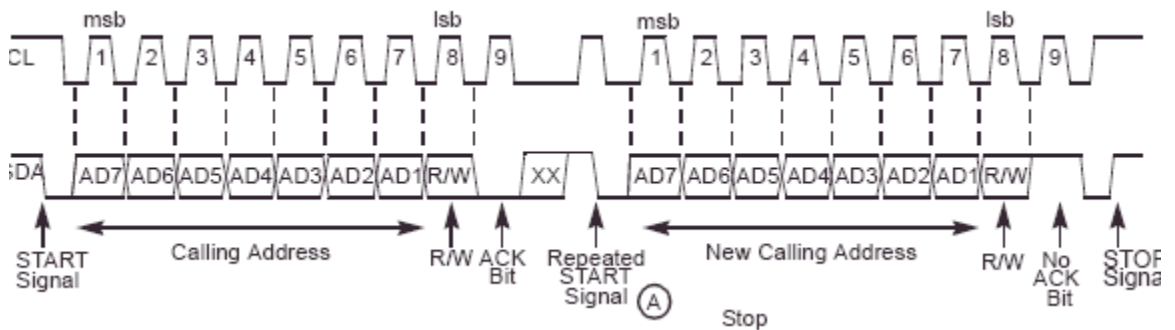

Figure 19-3 Repeat Start of I2C protocol
如果从机没有应答主机，那么从机的接收器必须使SDA为高电平。主机然后产生一个停止信号中止数据传输，或产生一个开始信号（重复启动，如图19-3所示）开始一个新的传输序列。
5. Instead of signalling a STOP, the master can repeat the START signal, followed by a calling command, (A in **Figure 19-3**). A repeated START occurs when a START signal is generated without first generating a STOP signal to end the communication. The master uses a repeated START to communicate with another slave or with the same slave in a different mode (transmit/receive mode), without releasing the bus.